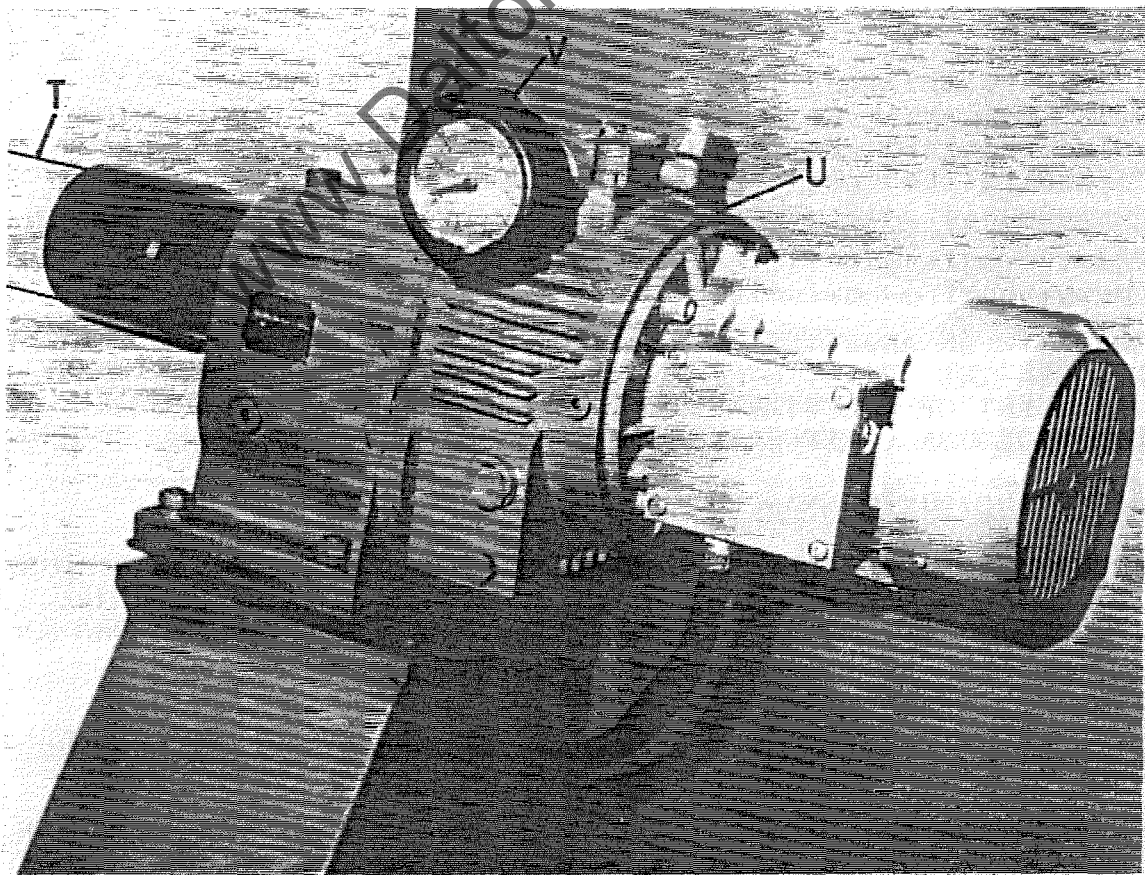

FIG. 27
The chain beams are driven via a 75mm (3in) diameter shaft "T" FIG.27, through a variable speed drive unit "U" and a close coupled reduction gearbox. A combined tachometer and handwheel "V" operates the feed change mechanism and provides variable feed speeds of 3-18 metres per minute (10-60 feet per minute).
- 2 Adjust pressure beam vertically by screw "A" FIG.27 with cranked handle (supplied with machine) in conjunction with digital readout "B". Relock locking handle "G". (Where applicable)